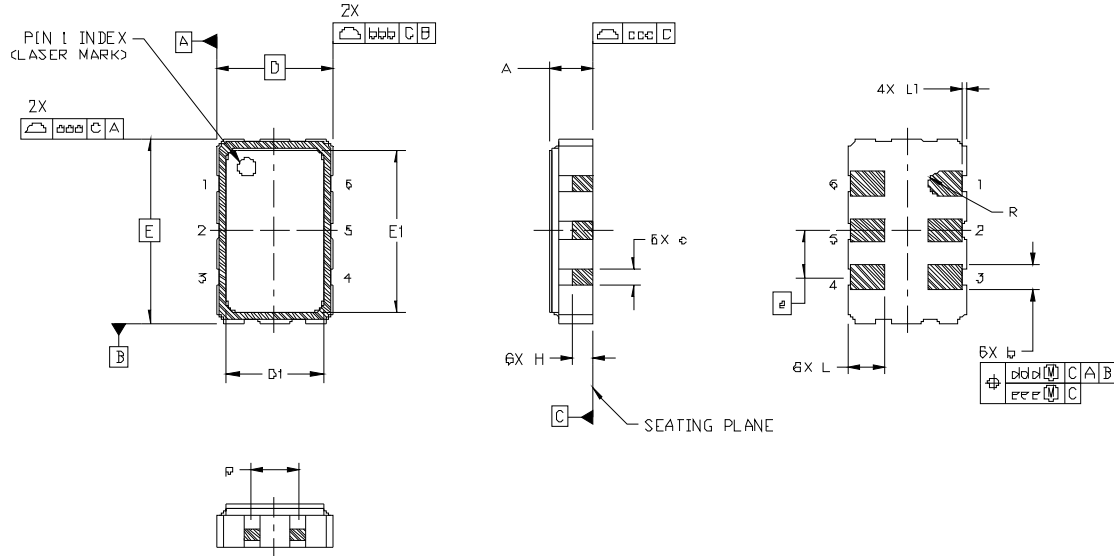

Figure 10. Si510/511 Outline Diagram
Figure 10 illustrates the package details for the 3.2 x 5 mm Si510/511. Table 20 lists the values for the dimensions shown in the illustration.
- Updated Figure 10 outline diagram to correct pinout.